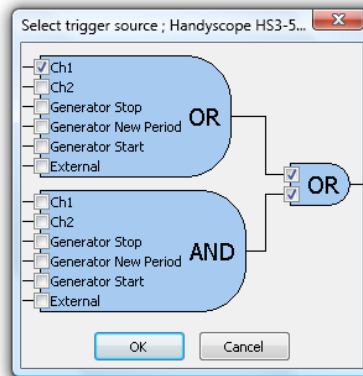

Figure 5.5: Advanced trigger source settings
**Trigger source** The *trigger source* setting of an instrument determines which trigger signals are used to trigger the measurement. The trigger source can be set to a single channel or to a combination of channels or other trigger sources. The sources can be logically combined using OR and AND operations. In figure 5.5 you can see the trigger sources that can be used with a Handyscope HS3. The trigger source is set to channel 1. You can use hotkey **ALT-*n***, with *n* a channel number, to quickly change the trigger source.